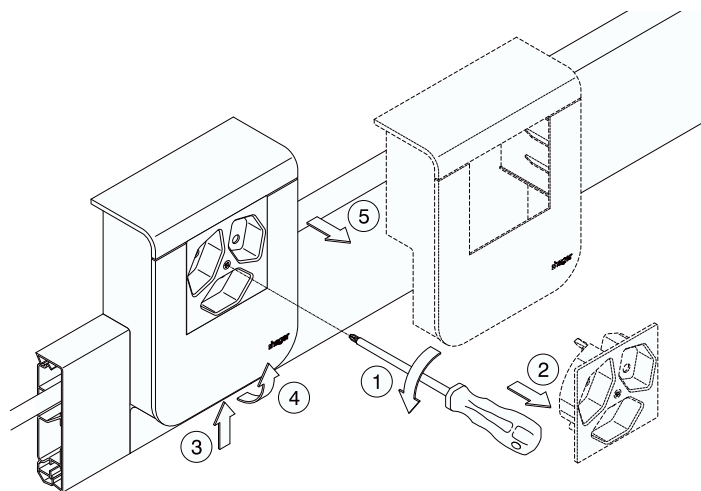

Figure 5
1. Release (fig. 5)
2. Remove the top part (fig. 5)